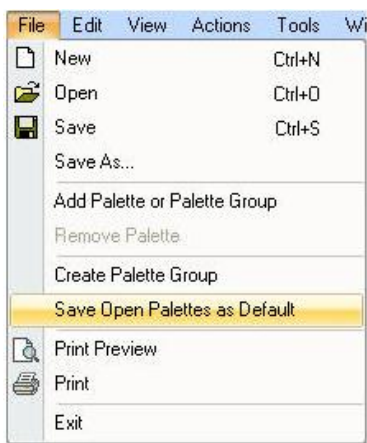

Figure 140. File Menu – Save Open Palettes as Defaults
4. To save all palettes displayed on the palette bar as default palettes, select **Save Open Palettes as Default** from the **File** menu, as shown in Figure 140.